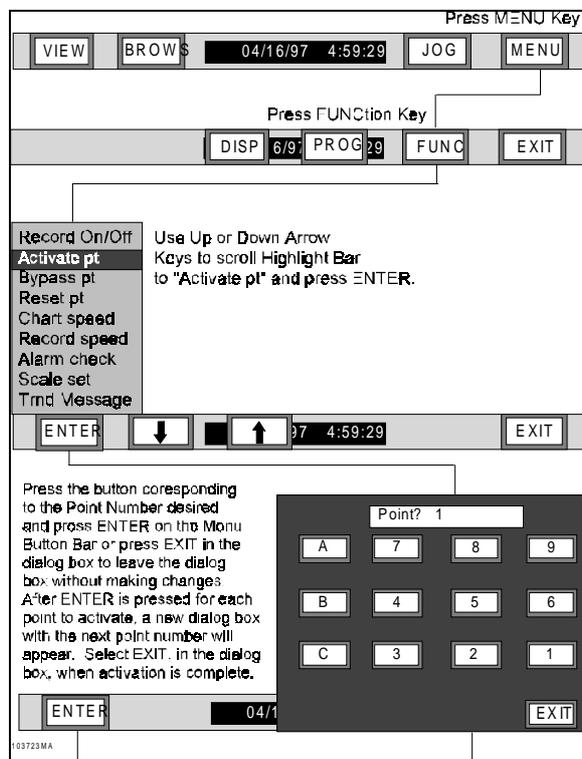

Figure 3-33 Activate Point Flow Chart
B. Activate Point - This menu item returns a temporarily bypassed point or points to the measurement cycle for measuring inputs and displaying information. To activate a point perform the following steps and use the flow chart shown in Figure 3-33: